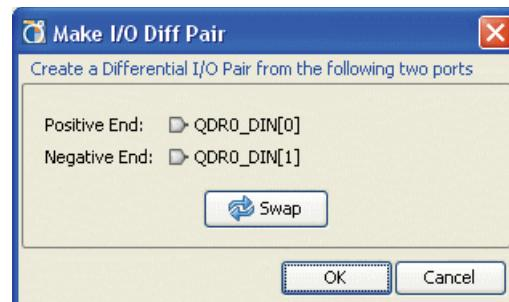

Figure 8-15: **Make I/O Diff Pair**
1. Select any two I/O ports, then select **Make Diff Pair** in the popup menu of the I/O Ports view, as shown in Figure 8-15.